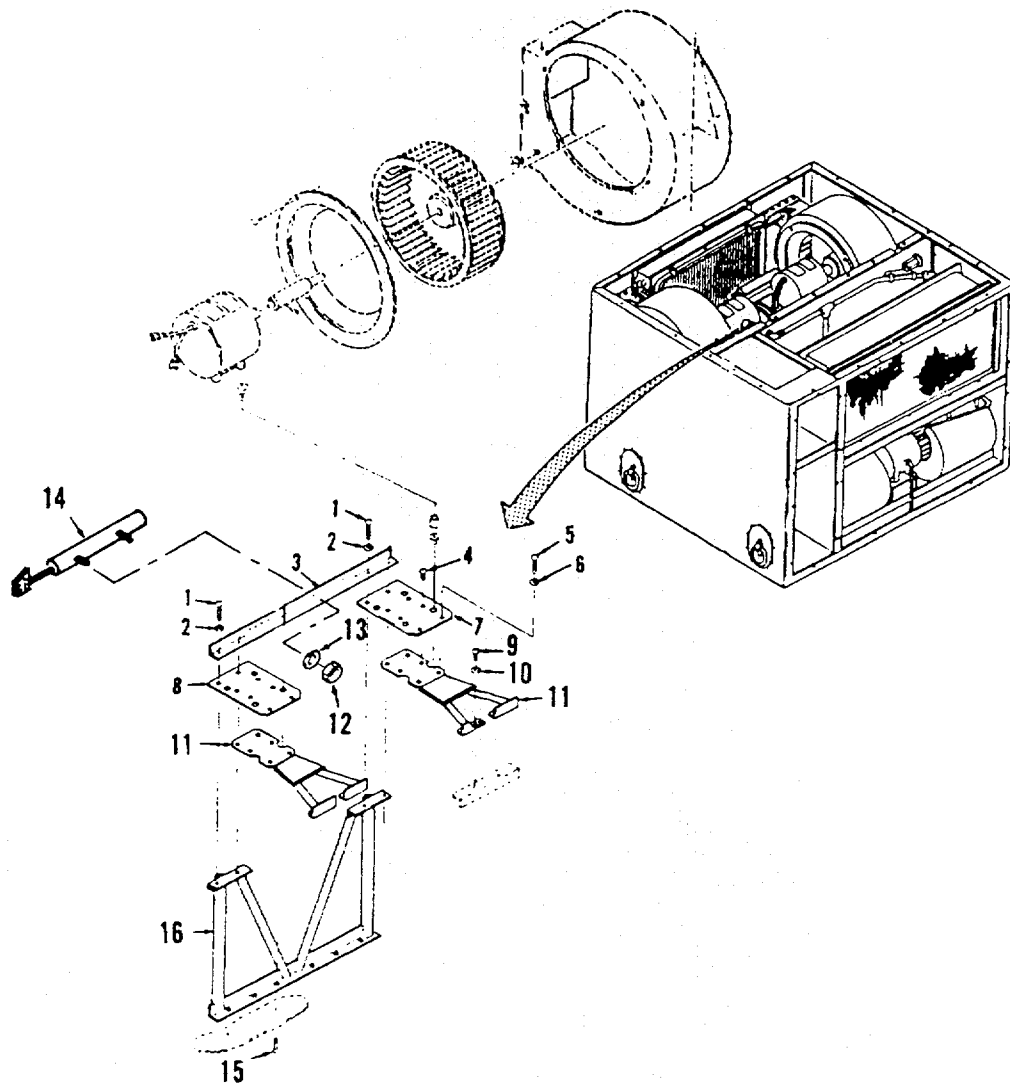

Figure 4-10. Condenser Fan Braces and Support.
**a. Removal.** (Refer to Figure 4-10).
- (1) Remove four screws (1), four lock washers (2), and angle (3).
- (2) Remove eight screws (4), four screws (5), four lock washers (6), motor mounting plate (7), and motor mounting plate (8).
- (3) Remove four screws (9), four flat washers (10), and two condenser motor braces (11).
- (4) Remove two nuts (12), two lock washers (13), and actuator cylinder (14) from angle (3).
(5) Carefully lift air conditioner onto a stand to expose bottom of air conditioner and remove six screws (15) and condenser motor support (16).